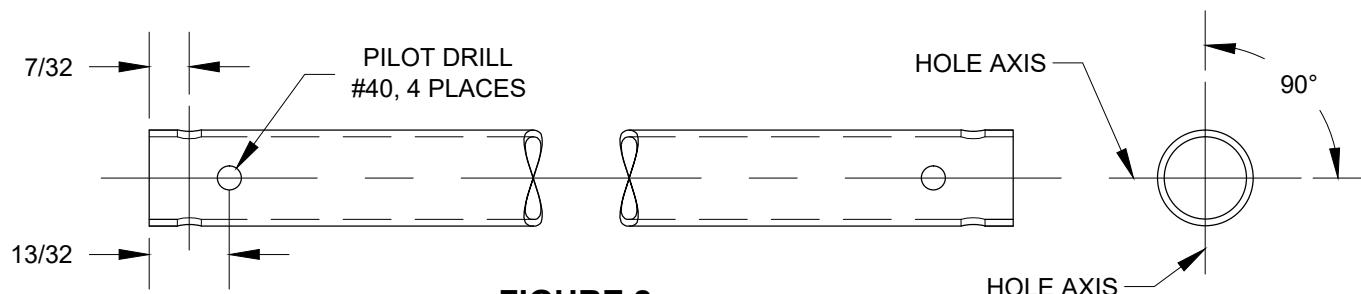

FIGURE 2:
Step 2: Use a #40 drill to make four pilot holes in each end of both **W-1018A** Bellcrank to Aileron Pushrods as shown in Figure 2. Use a drill press to drill the holes and use a vee-block to support the pushrod tube while drilling. Deburr the hole edges on the inside of the pushrod tubes.